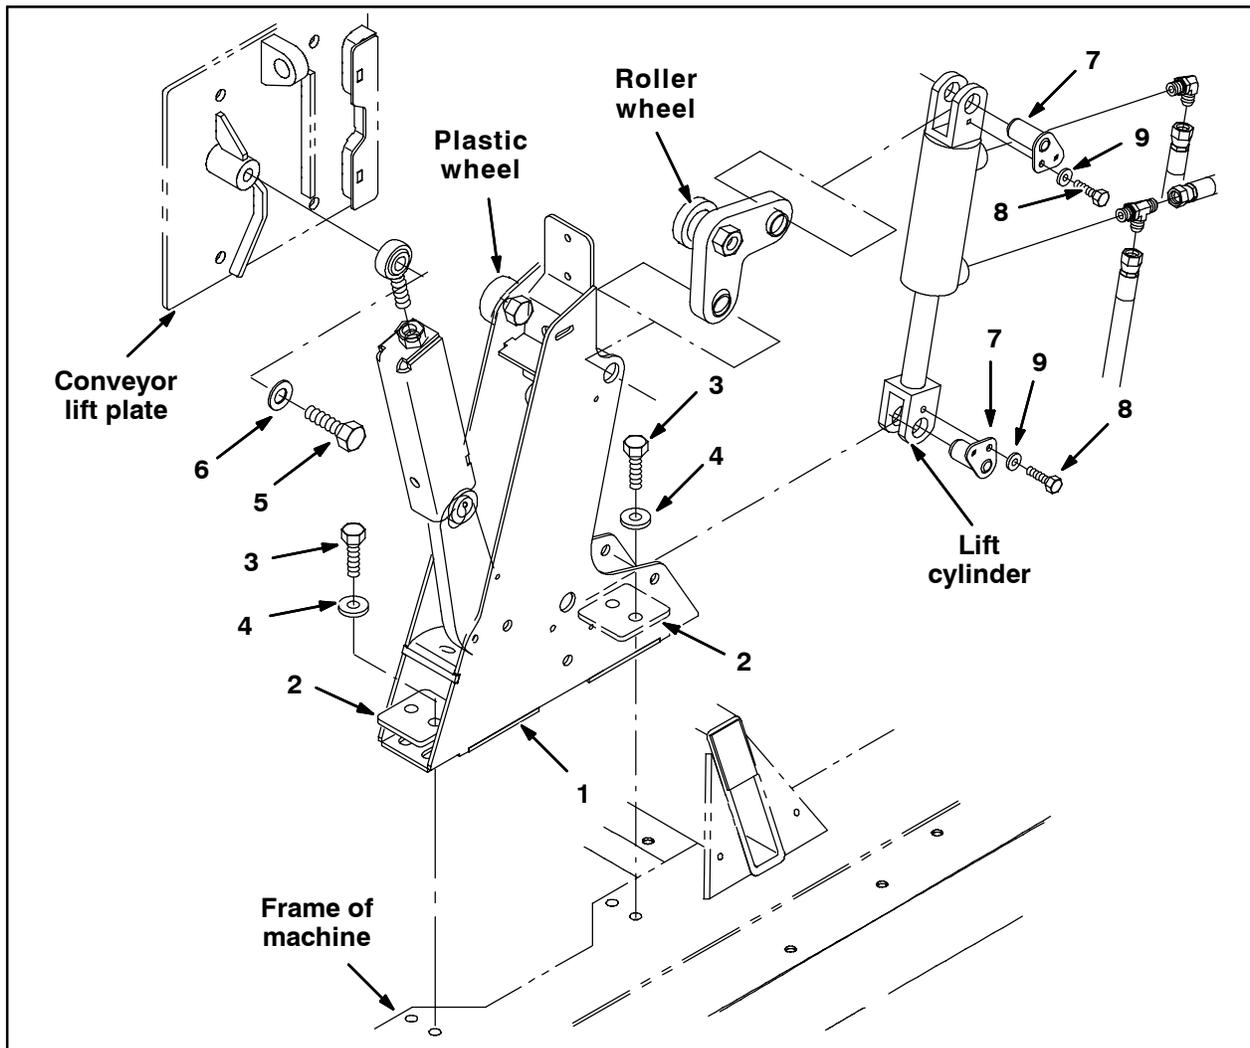

FIG. 8
6. Set the new conveyor lift assembly (1) onto the frame of the machine and use four hex screws (3), four flat washers (4), and two support plates (2) to secure the conveyor lift assembly onto the frame of the machine. Do not completely tighten the the four hex screws. Refer to Fig. 8.
7. Ensure the roller wheels in the conveyor lift assembly (1) are aligned with the conveyor lift plate and push the conveyor lift assembly as far forward in the slots as possible. Torque the four hex screws (3) to 64-83 Nm (47-61 ft. lbs). Refer to Fig. 8.
8. Use the clevis pins (7), flat washers (9), and hex screws (8) to install the lift cylinder onto the conveyor lift assembly (1). Refer to Fig. 8.
10. Use a hex screw (5) and a flat washer (6) to install the rod end onto the conveyor lift plate. Refer to Fig. 8.
15. If there is not at least 1/16" of clearance between the conveyor and the hydraulic reservoir, loosen the four hex screws (3) securing the conveyor lift assembly (1) to the frame of the machine, place a pry bar next to the hydraulic reservoir and pry the conveyor away from the hydraulic reservoir until there is adequate clearance. Torque the four hex screws to 64-83 Nm (47-61 ft. lbs). Refer to Fig. 10 and Fig. 8.